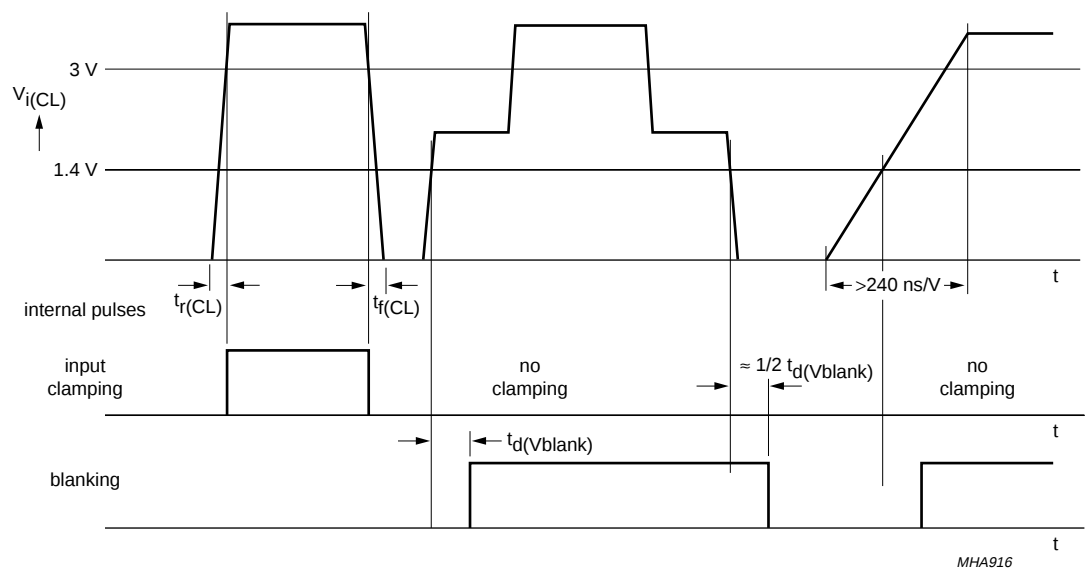

Fig.16 Timing of pulses at pin 10.
17. For $75 \text{ ns/V} < t_{r(CL)}, t_{f(CL)} < 240 \text{ ns/V}$, generation of internal input clamping and blanking pulse is not defined. Pulses not exceeding the threshold of input clamping (typical 3 V) will be detected as blanking pulse. Timing of pulses at pin 10 see Fig.16.